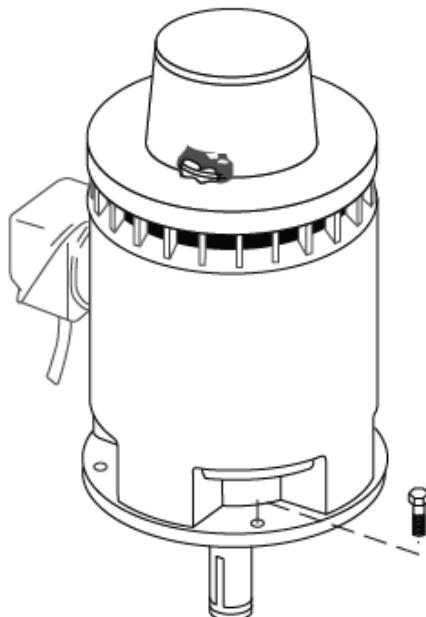

FIGURE 21 – VHS Mounting Bolts
***If your pump is equipped with a vertical hollow shaft driver, illustrated in Figure 21, continue right on here with subsection Vertical Hollow Shaft.***